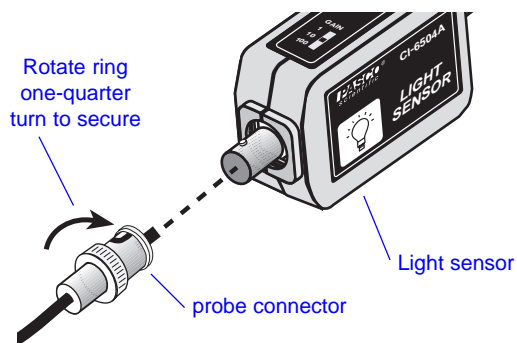

Figure 3. Attaching the fiber optics probe to the Light Sensor
- ② If the fiber optics probe (PASCO part no. 003-01383) is to be used, attach it by slipping the connector of the fiber optics probe over the input connector on the Light Sensor (Figure 3). A quarter twist clockwise locks the probe to the Light Sensor. (To disconnect, press the connector towards the sensor box, turn it counterclockwise one-quarter turn, and pull away from the box.)